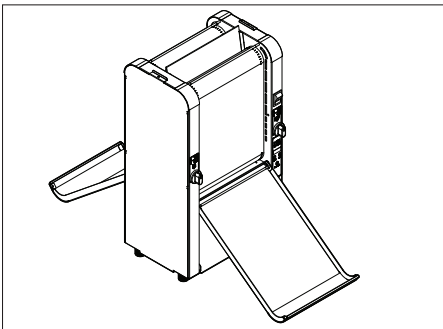

Figure 14. Open front and rear Conveyor Covers
3. Set both Bun thickness Compression Knobs to 6. Next, open both Conveyor Covers (Figure 14).